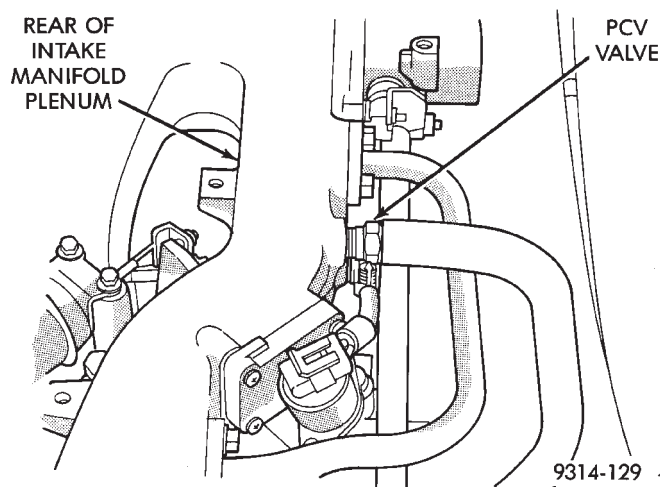

Fig. 60 PCV Valve—3.5L Engine
- (1) Warm engine in Park or Neutral until the cooling fan has cycled on and off at least once.
- (2) Ensure that all accessories are off.
- (3) Shut off engine.
- (4) Disconnect the PCV valve hose from the PCV valve (Fig. 60). Cap the PCV valve.